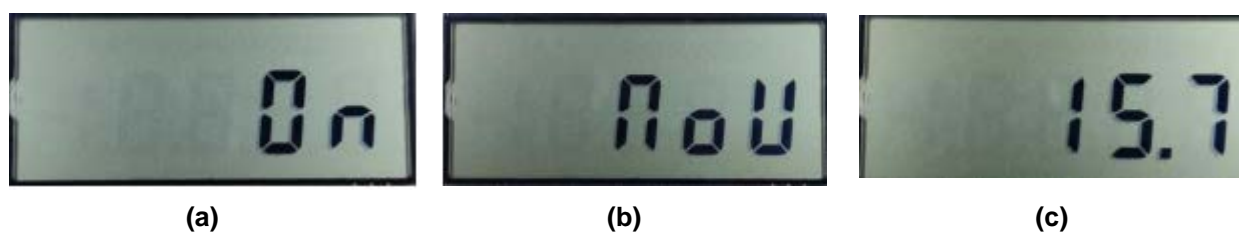

Figure 7. (a) On Displays When the LCD Turns On During the First Second
2. After the green LED lights up, the LCD briefly displays **On** for 1 second (Figure 7, a); next, **NoV** appears on the LCD (Figure 7, b) indicating that the bus voltage is below 3V.
5. If the setup is correct, the LCD displays the measured current value in mA (see Figure 7, c), which would be 10.0 for this procedure.